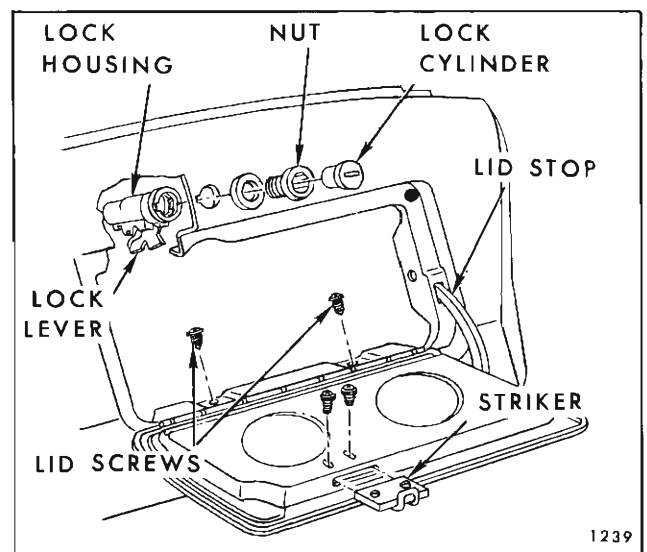

Fig. 2C17—Instrument Panel Compartment Door Assembly - 43-44000 Series
1. On 13000 series and on 23000 series, remove attaching screws and remove lock assembly, (Fig. 2C15, Fig. 2C16).
2. On 43-44000 series, with key removed and in unlocked position, open door, push locking lever forward to locked position, then working from the right side of the lock housing, insert  $1/8$ " wire in slot of housing, depress tumblers of lock cylinder and remove lock cylinder. Remove lock retainer, by unscrewing retainer to housing and remove lock. (Fig. 2C17).